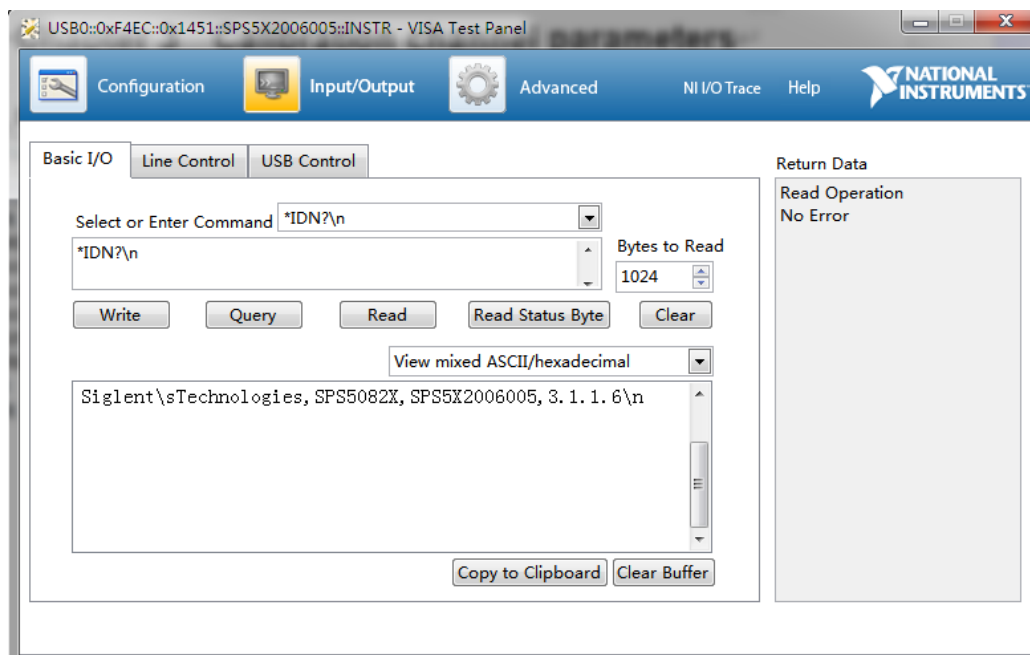

Figure 3-2
3. Click the “Input/Output” option of the box, enter the command in the command box, and click Write or Query to make the command take effect. As shown in Figure 3-2 below.